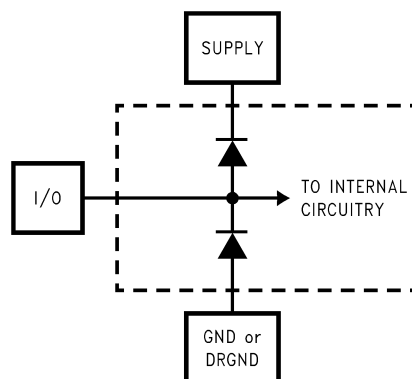

Figure 1.
- (1) The inputs are protected as shown below. Input voltage magnitudes above V_A or below GND will not damage this device, provided current is limited per ⁽¹⁾. However, errors in the A/D conversion can occur if the input goes above V_A or below GND by more than 100 mV. As an example, if V_A is 4.75V, the full-scale input voltage must be $\leq 4.85V$ to ensure accurate conversions. See Figure 1
- (2) To ensure accuracy, it is required that $|V_A - V_D| \leq 100\text{ mV}$ and separate bypass capacitors are used at each power supply pin.
- (3) With the test condition for $V_{REF} = +2.0V$ (4V_{P-P} differential input), the 12-bit LSB is 977 μV .
- (4) Typical figures are at $T_A = T_J = 25^\circ\text{C}$, and represent most likely parametric norms. Test limits are specified to TI's AOQL (Average Outgoing Quality Level).
- (5) Integral Non Linearity is defined as the deviation of the analog value, expressed in LSBs, from the straight line that passes through positive and negative full-scale.
- (6) Optimum performance will be obtained by keeping the reference input in the 1.8V to 2.2V range. The LM4051CIM3-ADJ (SOT-23 package) is recommended for this application.
- (1) The inputs are protected as shown below. Input voltage magnitudes above V_A or below GND will not damage this device, provided current is limited per ⁰. However, errors in the A/D conversion can occur if the input goes above V_A or below GND by more than 100 mV. As an example, if V_A is 4.75V, the full-scale input voltage must be $\leq 4.85V$ to ensure accurate conversions. See Figure 1
- (5) Typical figures are at $T_A = T_J = 25^\circ\text{C}$, and represent most likely parametric norms. Test limits are specified to TI's AOQL (Average Outgoing Quality Level).
- (6) I_{DR} is the current consumed by the switching of the output drivers and is primarily determined by load capacitance on the output pins, the supply voltage, V_{DR} , and the rate at which the outputs are switching (which is signal dependent). $I_{DR} = V_{DR}(C_0 \times f_0 + C_1 \times f_1 + \dots + C_{11} \times f_{11})$ where V_{DR} is the output driver power supply voltage, C_n is total capacitance on the output pin, and f_n is the average frequency at which that pin is toggling.
- (7) Excludes I_{DR} . See previous note.
- (2) To ensure accuracy, it is required that $|V_A - V_D| \leq 100$ mV and separate bypass capacitors are used at each power supply pin.
- (4) Timing specifications are tested at TTL logic levels, $V_{IL} = 0.4V$ for a falling edge and $V_{IH} = 2.4V$ for a rising edge.
- (5) Typical figures are at $T_A = T_J = 25^\circ C$, and represent most likely parametric norms. Test limits are specified to TI's AOQL (Average Outgoing Quality Level).